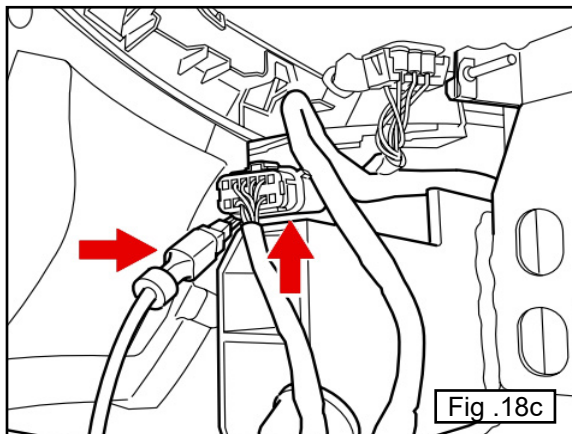
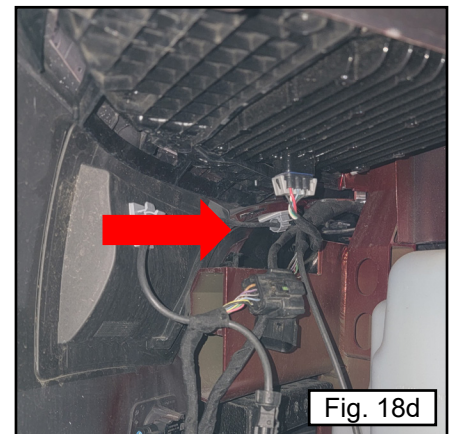

Fig .18c
Fig. 18d
9. Disconnect the electrical harness connectors from fascia harness (left side) (Fig.18c and Fig.18d).